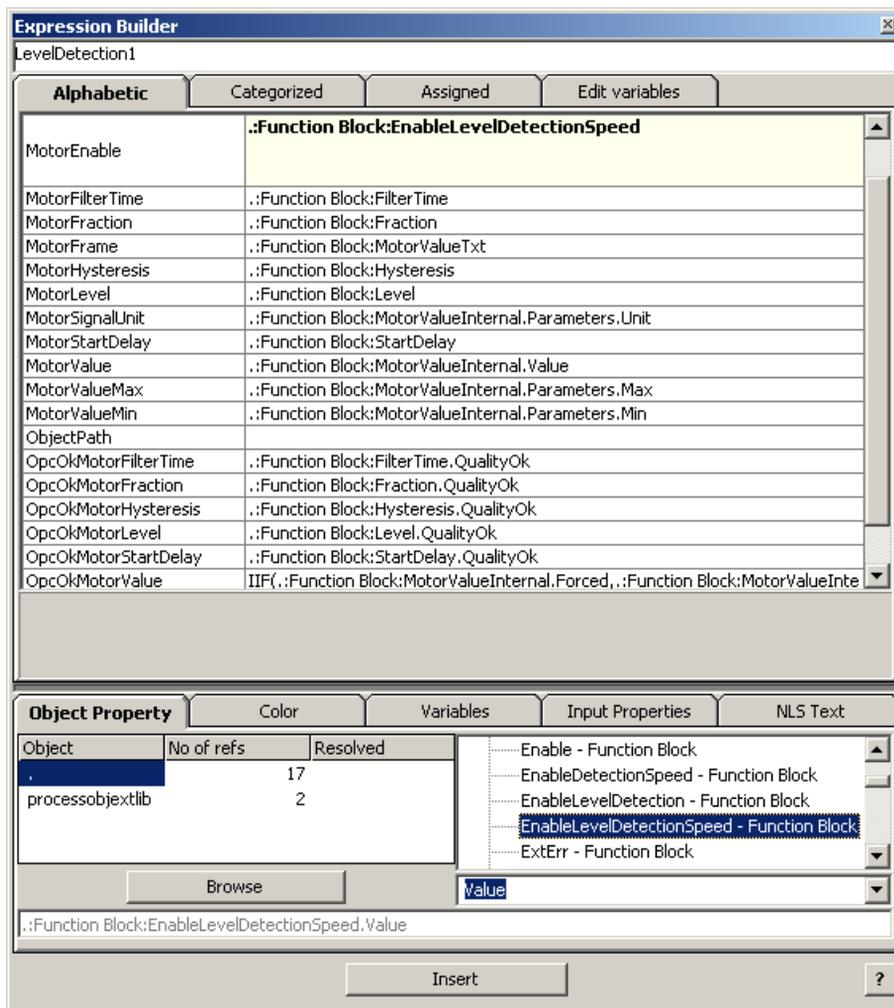

Figure 179. Changing the signals from EnableLevelDetection to EnableLevelDetectionSpeed in the Expression Builder window
- In the Expression Builder window, all the connections in the expressions from the signals used in the LevelDetection function block are changed to the signals used in the LevelDetectionSpeed function block. For example, the signal in the expression for MotorEnable is to be changed from EnableLevelDetection to EnableLevelDetectionSpeed (see the Figure 179).